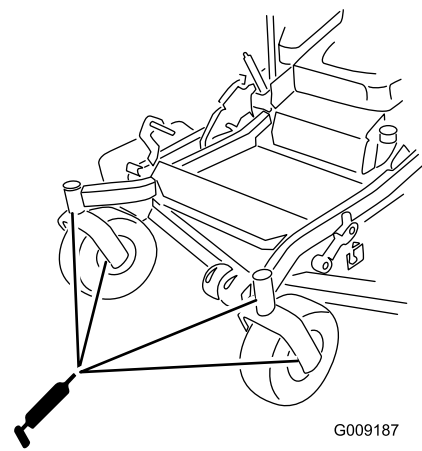

Figure 40
9. Remove the grease fitting in the hole. Install the hex plug and dust cap (Figure 40).